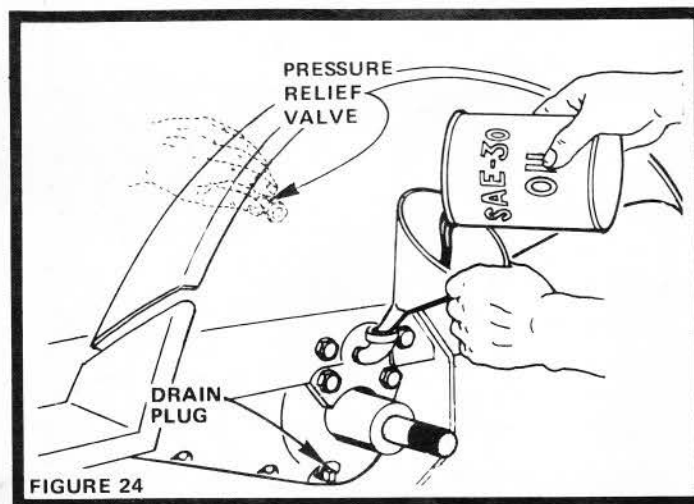

FIGURE 24
- Check Pressure Relief Valve (Fig. 24). It should spring completely closed when pulled out by hand.
- Drain Transaxle Oil by removing Drain Plug (Fig. 24) and catching Oil in suitable container. Replace Drain Plug.